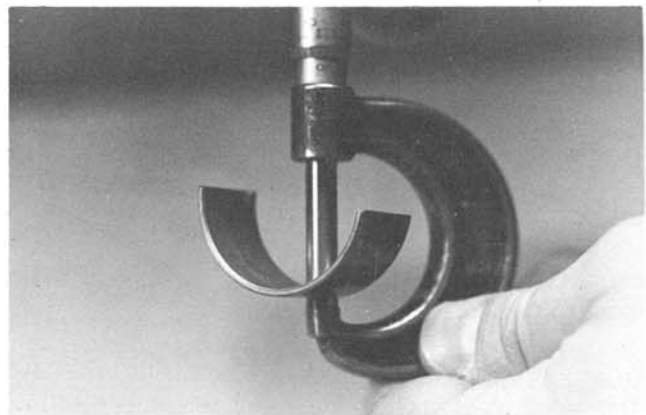

FIGURE 33. CHECKING BEARING THICKNESS
6. If the visual inspection appears satisfactory, bearings should be removed and checked for thickness using a ball micrometer (Figure 33).